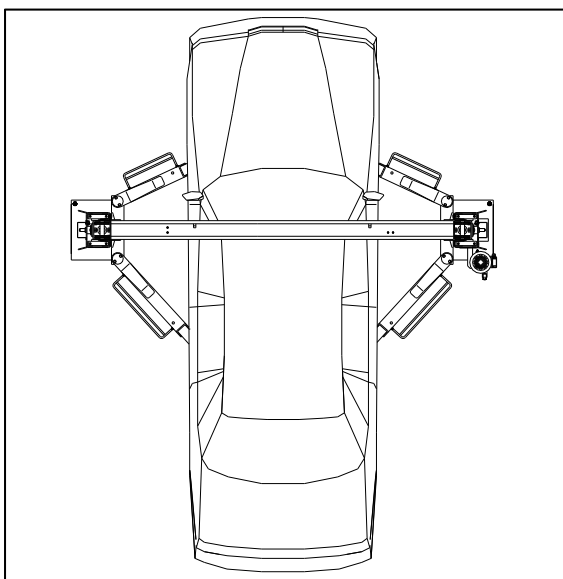

Fig. 11 Correctly Loaded Vehicle
It is important to position the vehicle on the lift so that the weight is correctly distributed on the arms. **(Fig. 11)** For person and equipment safety, it is important that:
- ◆ The vehicle is correctly positioned. **(Fig. 11)**